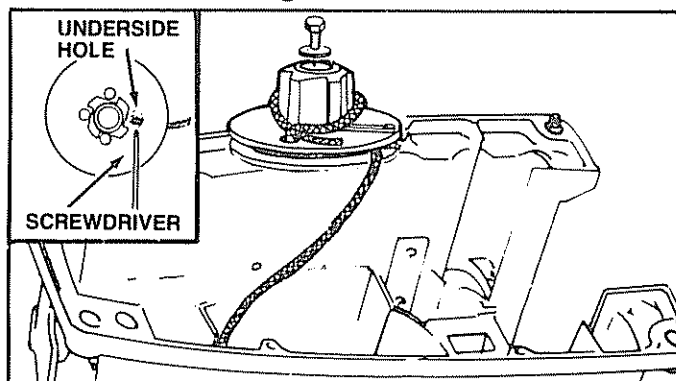

Figure 18
- Snake rope inside the pulley, then through topside pulley hole by pushing the rope from the underside hole with a small round object such as a Phillips screwdriver. See Insert, Figure 18.
- Wrap rope counterclockwise ← around pulley ratchet and tuck loose end back under rope leaving a 3/8 to 1/4 inch tail. Figure 18. Pull tightly.